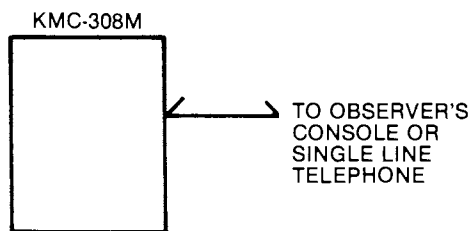
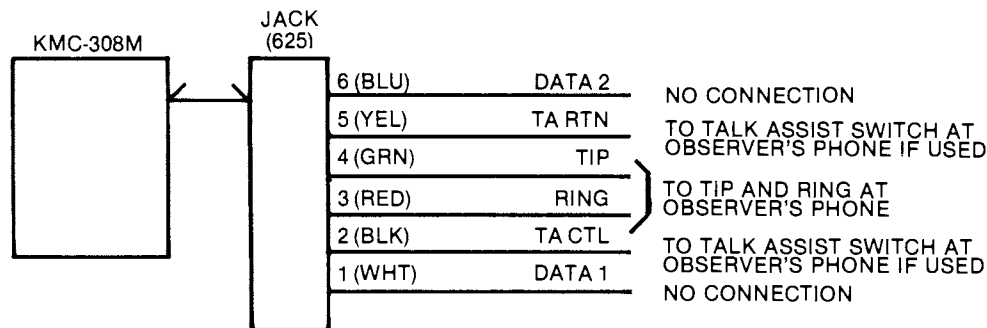
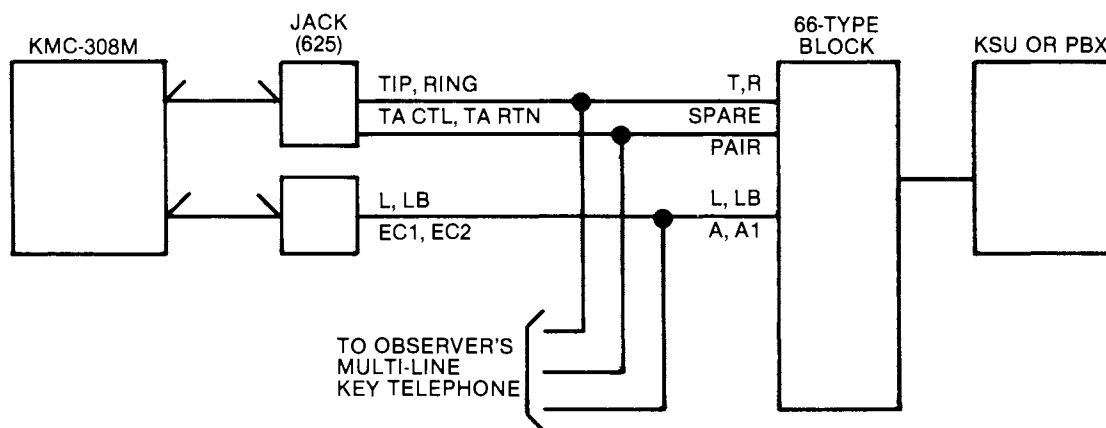

Fig. 10 — Connections to Observer's Console or Single-Line Telephone.
Fig. 11 — Connection to Observer's Single-Line Telephone.
Fig. 12 — Connections to Observer's Multi-Line Key Telephone.
1. *Connections to CM-8 Console—KMC-308M installations only (see Figure 10):* Connect the modular cord directly into
- a. Connect the modular cord either directly into the line receptacle on the telephone (Figure 10), or into a 6-position, 6-conductor jack (625). When connections are made to a jack, connect the TIP and RING leads from the modular cord connection at the jack to the telephone as shown in Figure 11.
- b. If the talk assist feature is desired, the observer's telephone must be equipped with a switch dedicated to the talk assist function. Any two position switch or pushbutton may be used but a locking pushbutton (push-on/push-off) with mechanical indicator is recommended. Follow the manufacturer's instructions for attaching the switch to the telephone. If the modular cord from the KMC-308M OBSERVER'S STA receptacle is connected directly to the telephone's line receptacle, connect one side of the talk assist switch to the instrument's YELLOW lead and the other side to the instrument's BLACK lead. If the modular cord from the KMC-308M OBSERVER'S STA receptacle is connected to a modular jack (625), connect the TA RTN lead from the modular cord connection at the jack to one side of the talk assist switch and the TA CTL lead to the other side.
3. *Connections to a multi-line key system telephone (see Figure 12):*
- a. Connect the modular cord from the KMC-308M OBSERVER'S STA receptacle to a 6-position, 6-conductor jack (625), then connect the TIP and RING leads from the modular cord connection at the jack to the station TIP and RING leads through the connecting block.